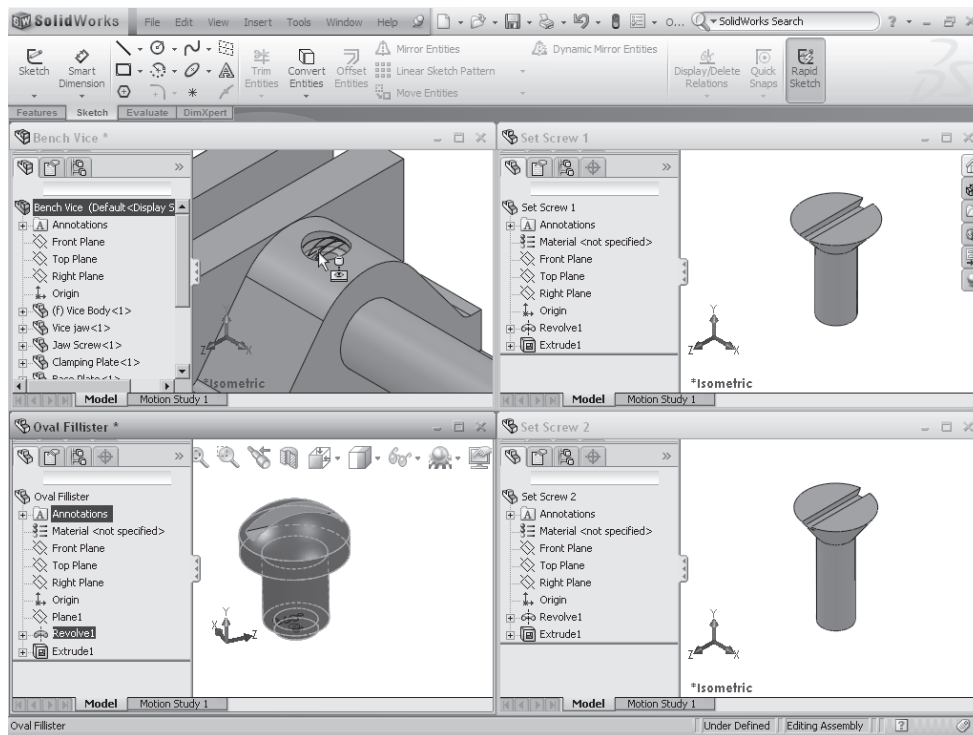

Figure 12-74 Dragging the Oval Fillisters in the assembly using the feature-based mates
3. Select the **Revolve1** feature from the **FeatureManager design tree** of the Oval Fillister part document. Drag the cursor to place the component in the assembly, as shown in Figure 12-74.